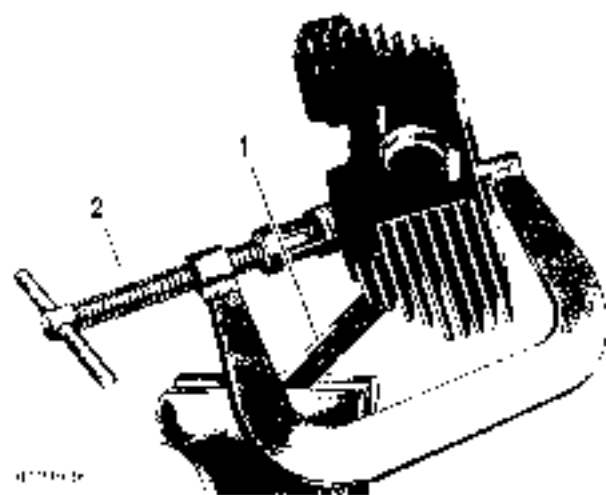

Figure 3-91. Valve Spring Compressor (Part No. HD-34736-B)
- a. Thread 12 mm end of CYLINDER HEAD HOLDING FIXTURE (1) (Part No. HD-39786-A) into cylinder head (2) spark plug hole.
3. See Figure 3-91. Release valve spring compression.
- a. Place VALVE SPRING COMPRESSOR (2) (Part No. HD-34736-B) over cylinder head. Center blunt end on the valve head. Seat adapter at end of forcing screw in the valve spring retainer.